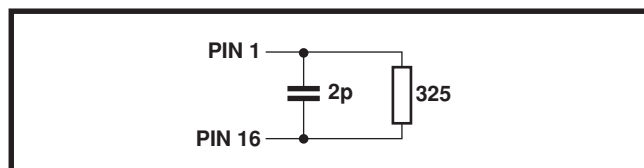
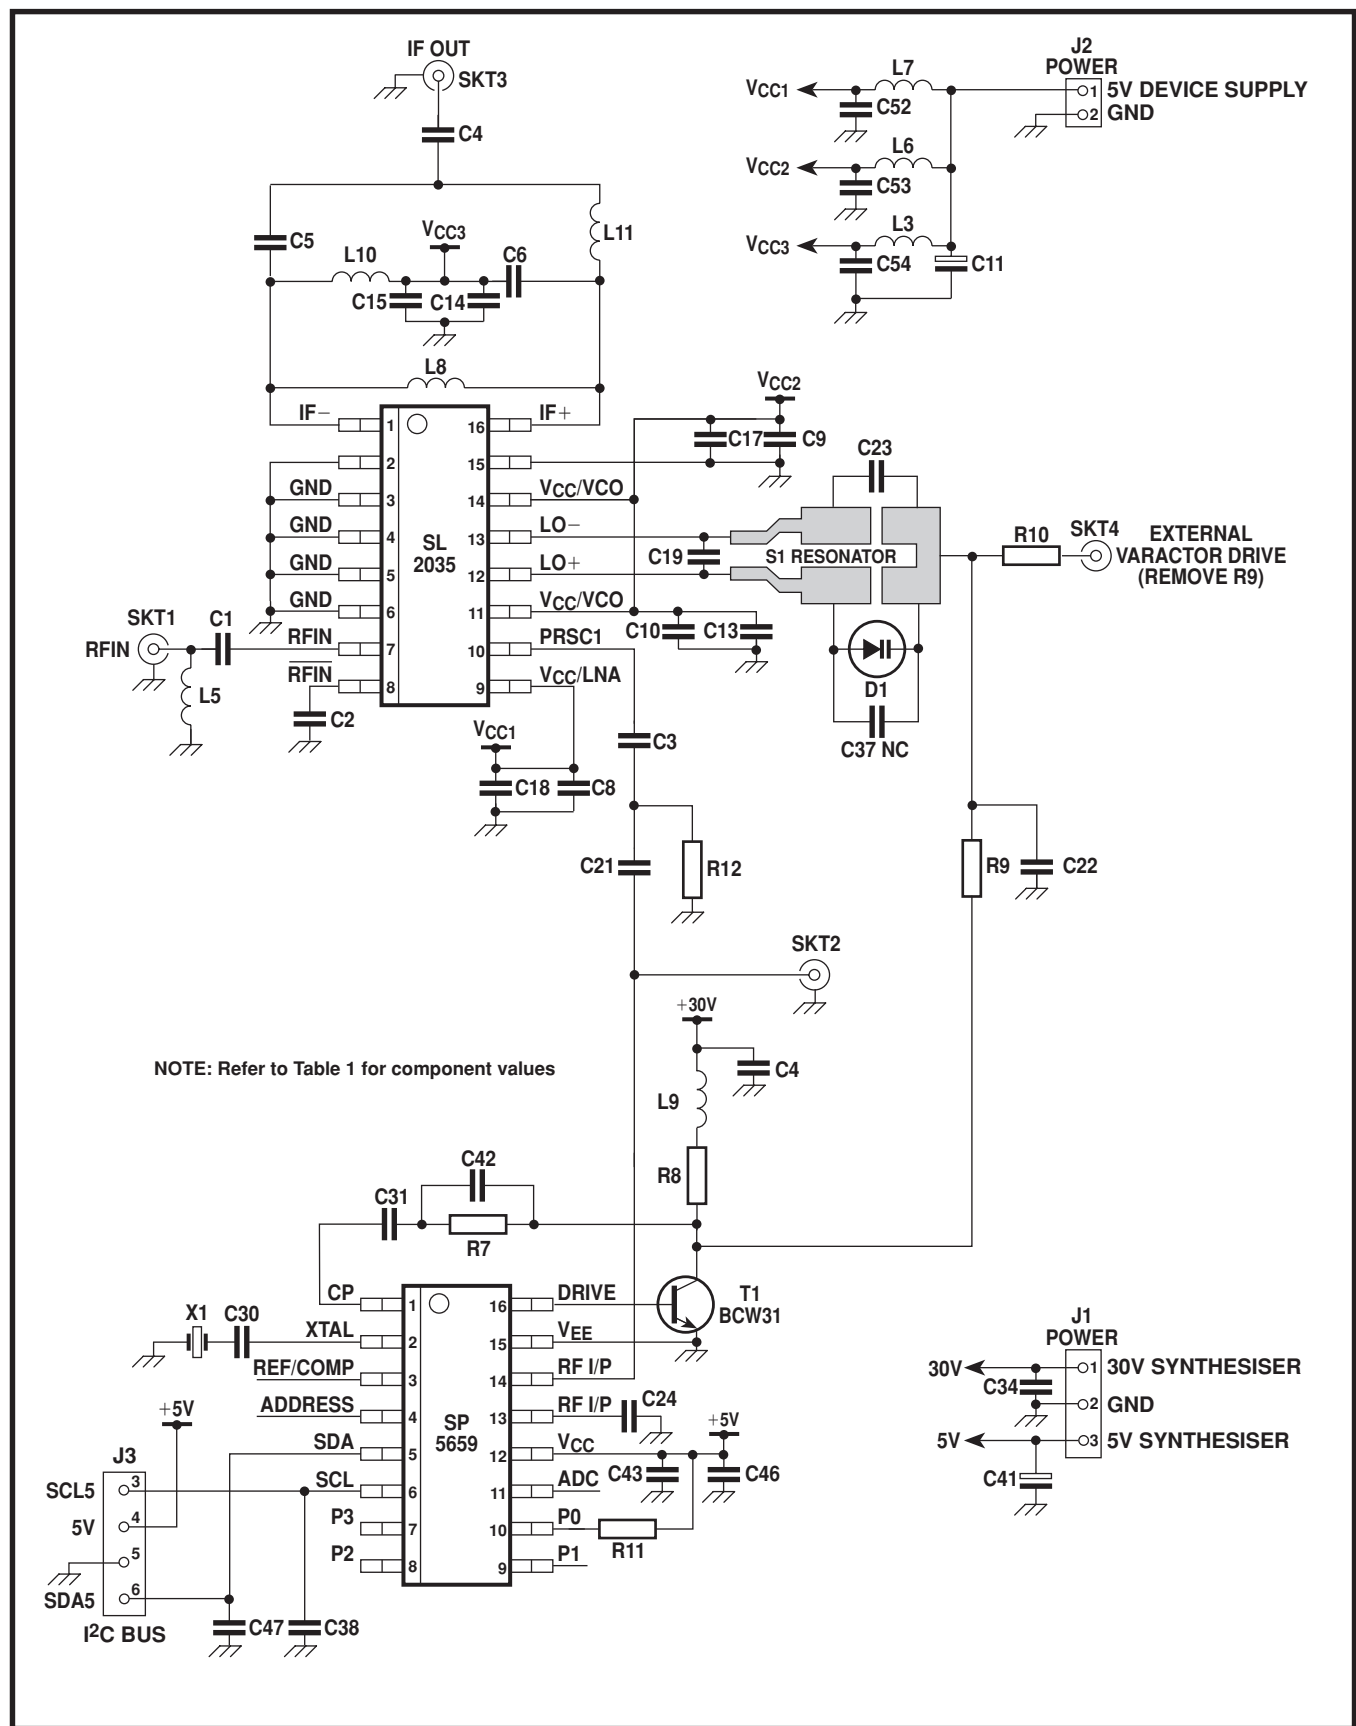

Figure 4 Approximate model of IF output
Figure 5 SL2035 upconverter application
The output of the preamplifier is fed to the mixer section which is optimised for low radiation application. In this stage the RF signal is mixed with the local oscillator frequency, which is generated by an on-chip oscillator. The oscillator block uses an external tuneable network and is optimised for low phase noise. A typical application is shown in Figure 5. This block also contains a buffer-amplifier to interface with an external PLL to allow for frequency synthesis of the local oscillator.
The IF output can be loaded either differentially or single-ended. It is recommended that the differential load as in Figure 5 is applied as this gives best noise performance. If the output is loaded single-ended the noise figure will be degraded. The approximate model of the IF output is shown in Figure 4.
1. Any two tones within RF operating range at 92dBμV with output load as in Figure 5.
Figure 5 shows the SL2035 in a typical downconverter application.
The network connected to the LO pin 12 and pin 13 is a varactor diode loaded resonant microstrip line resonator. Fine adjustment of the tuning range can be achieved by physically moving C19 (see Figure 5) closer to the LO pins. This extends the bottom end of the tuning range.
Table 1 Component values for Figure 5